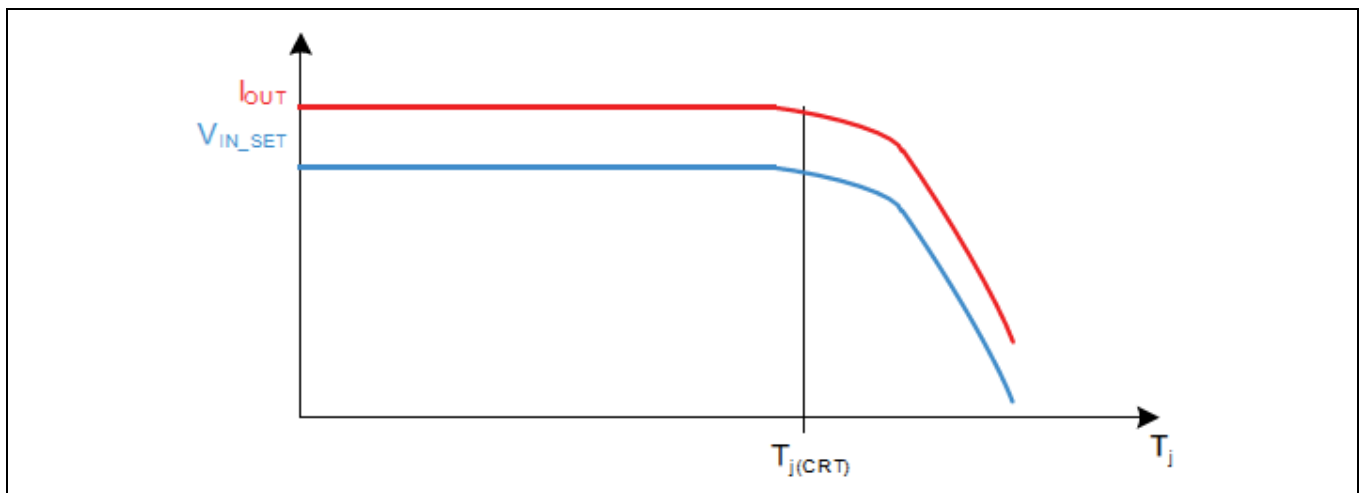

Figure 30 Output current reduction at high junction temperature
- Each output has a temperature dependent current reduction, which reduces the output current as the junction temperature exceeds the current reduction temperature threshold, $T_{j(CRT)}$. The output current is reduced by decreasing the internal IN_SET voltage reference, $V_{IN_SET(ref)}$. See figure 30. This feature protects the device (and the LEDs if they are close to the device) from overtemperature. The current reduction protection eliminates possible flickering of the LEDs which could be seen with an immediate output shutdown approach. This current reduction is active only when the junction temperature is above $T_{j(CRT)}$ (140°C typ.). If the junction temperature decreases, then the output current will increase.